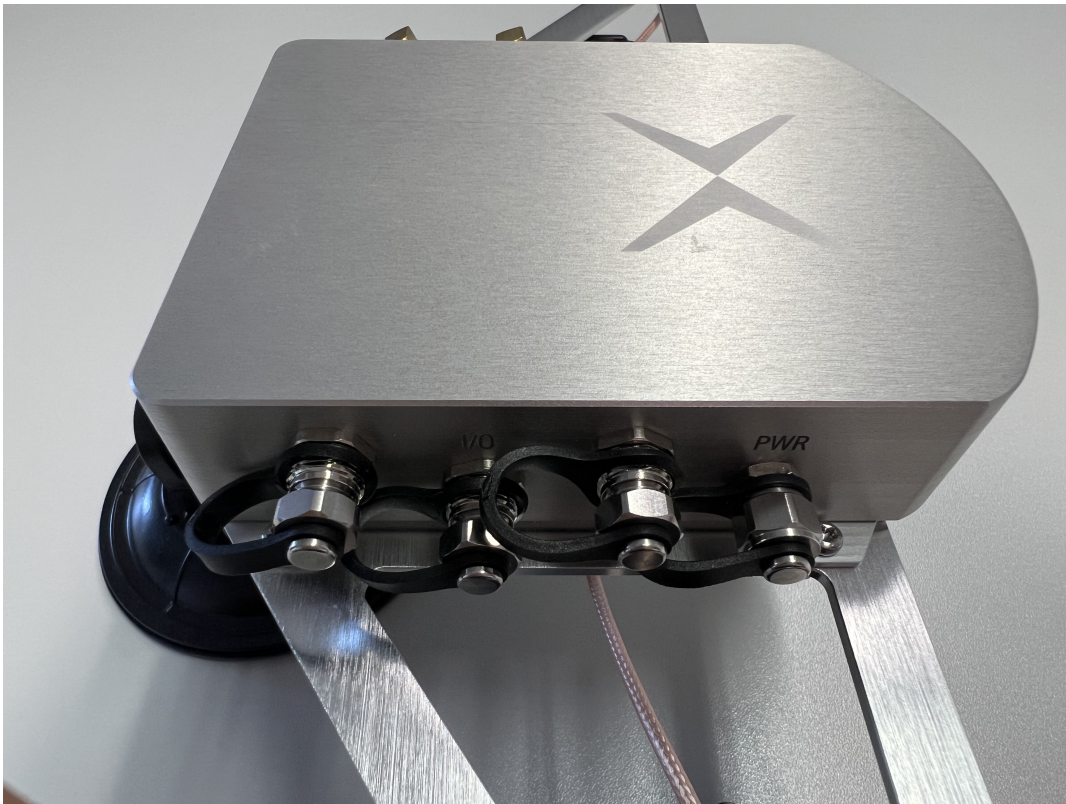

Figure 4.4.: Vision-RTK 2's connectors secured with protective caps
- Secure all unused connectors with protective caps (see Figure 4.4).